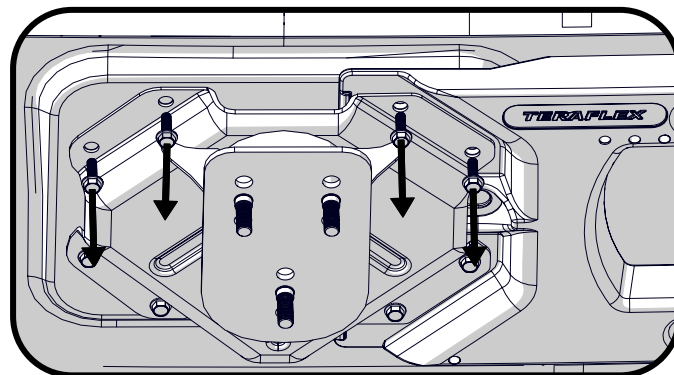

Figure 1
1. Take off the spare tire. Remove the 4 upper tire mount bolts and set them aside. (Figure 1)